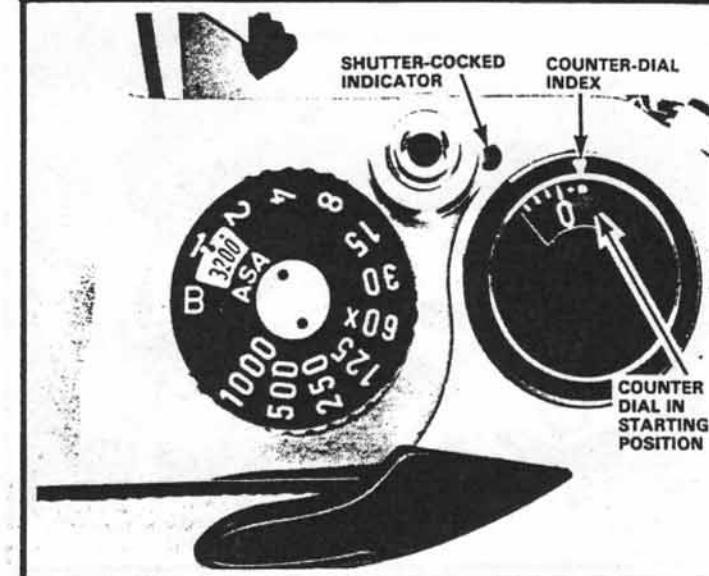
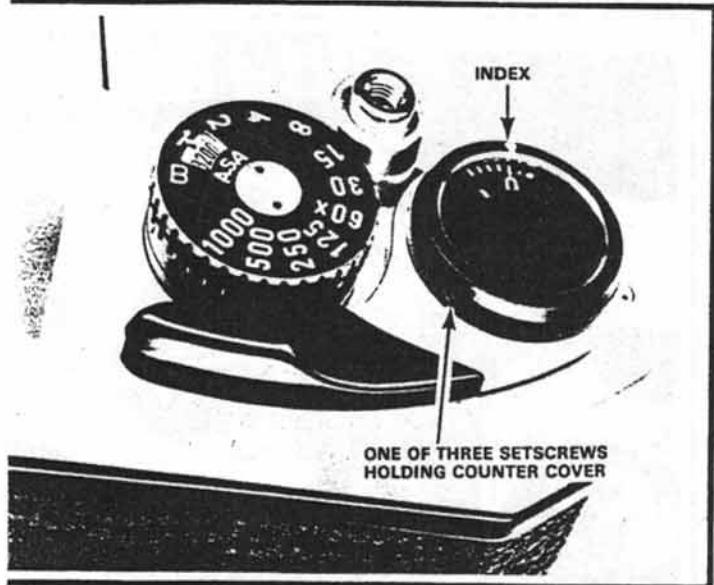
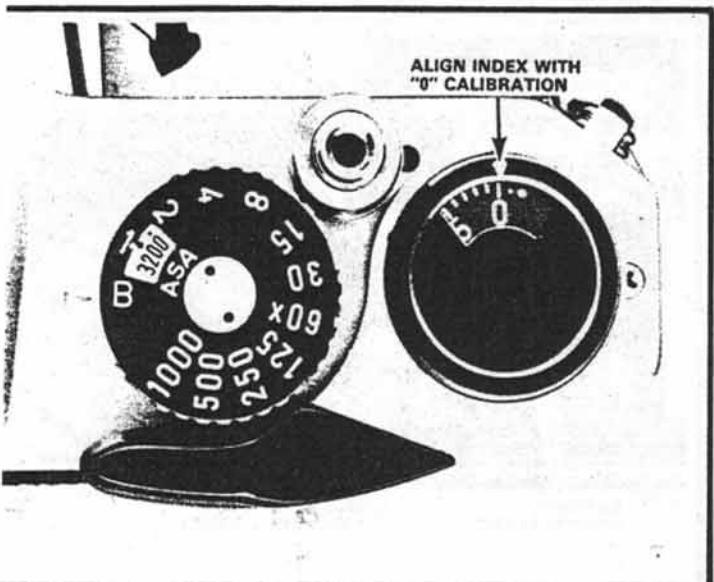

Figure 9
Figure 17
Figure 18
The other camera features remain the same in the various Spotmatic models. Even the very early Pentax SLR's provide the **shutter-cocked indicator**. When you cock the shutter, a red section of the shutter-cocked indicator shows through the top-cover window, Fig. 9; the red flag serves to warn you that the shutter is in the cocked position. A black section of the shutter-cocked indicator shows through the top-cover window when the shutter is released.
The operation of the counter dial is also the same in the many Spotmatic models. Try opening the camera back -- the counter dial should snap to the large-dot position, Fig. 9. Then, close the camera back and advance the wind lever. The counter dial should rotate one film-frame calibration each time you cock the shutter.
The procedure for removing the top cover remains practically unchanged in the various Spotmatic models. Starting with the wind lever, loosen the three setscrews which hold the counter cover, Fig. 17. Then, lift off the counter cover.
**REASSEMBLY:** When you replace the counter cover, you must properly align the index, Fig. 17, with the counter-dial calibrations. First, open the camera back; the counter dial then returns to its starting position. The index should now align with the large dot on the counter dial, Fig. 9. But it's pretty tough to precisely align the index with a dot. So close the camera back; then cock and release the shutter two times. Now, seat the counter cover. Rotate the counter cover until its index aligns with the "0" calibration, Fig. 18, and tighten the three setscrews.